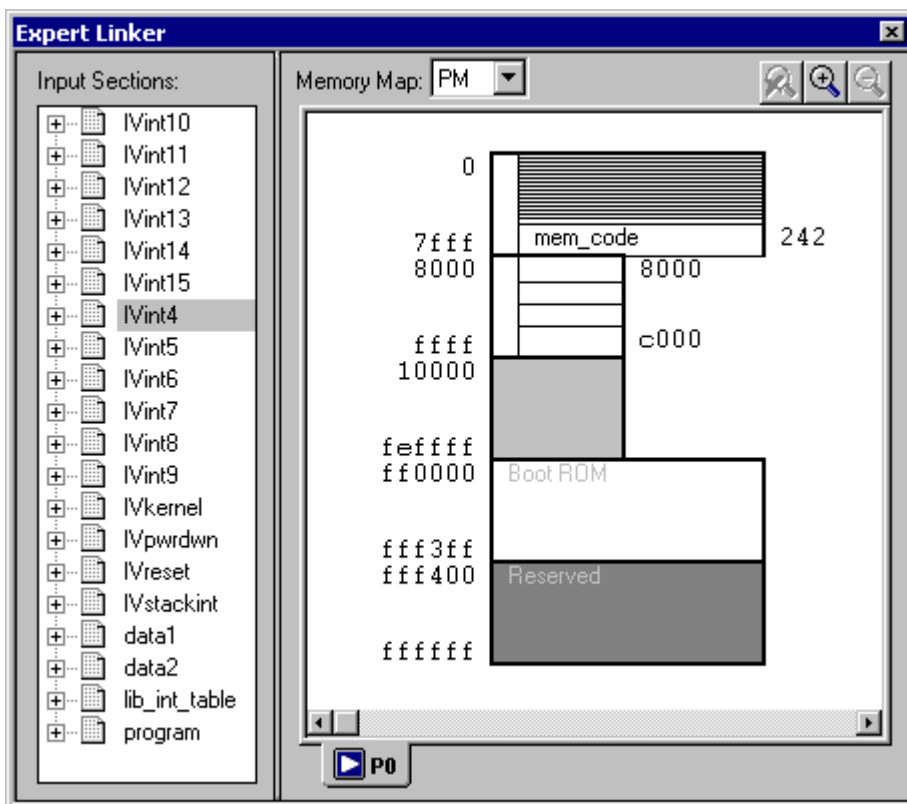

Figure 3-16. Graphical Memory Map Representation
- **Graphical Memory Map** — Displays the memory map in graphical blocks (see Figure 3-16 on page 3-23).
Figure 3-16 on page 3-23 shows an example of a graphical memory map.